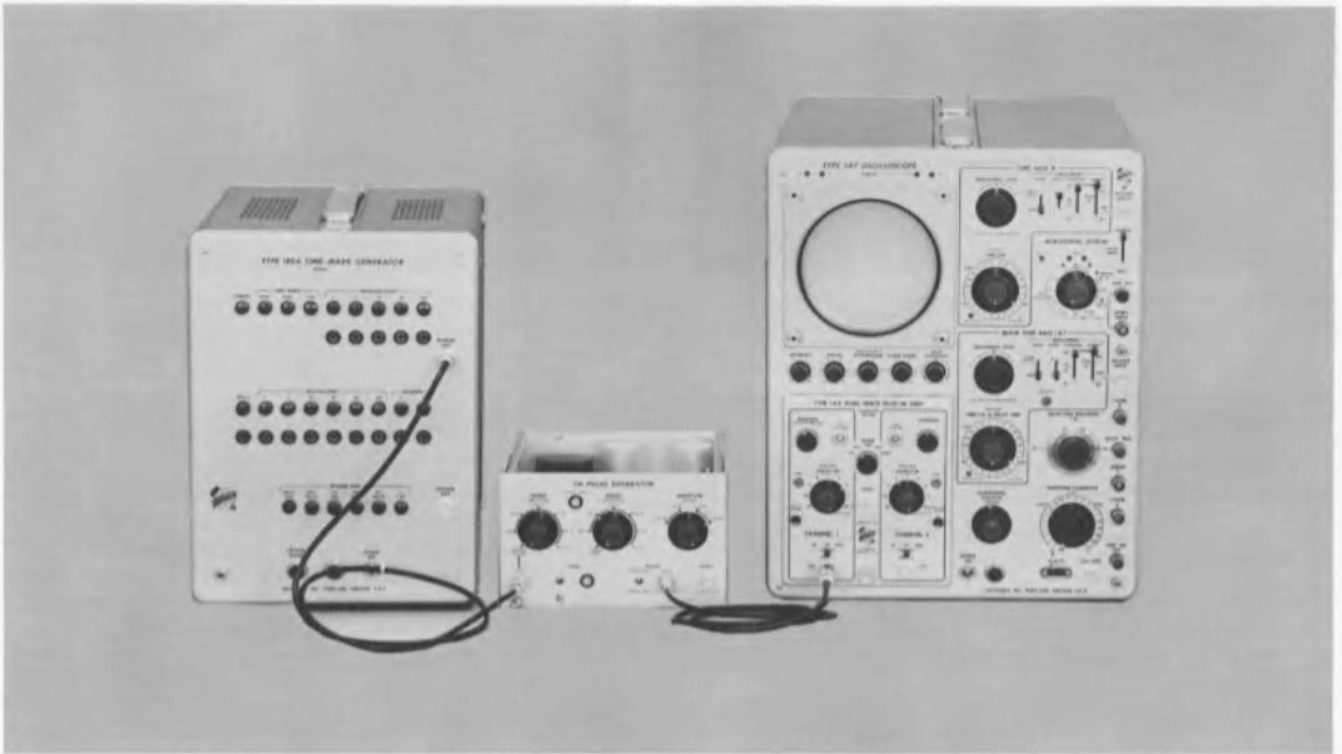

Fig. 4-17. Test setup for checking external triggering.
c. Connect a 50Ω coax from the Type 114 TRIGGER OUTPUT connector to the Type 1A1 Channel 1 input (see Fig. 4-17). Set the Type 1A1 MODE switch to CH 1. Set the Type 1A1 Channel 1 VOLTS/CM switch to 1.
d. Set the Type 547 TIME/CM (B) switch to $1 \mu\text{SEC}$ and adjust the TRIGGER LEVEL control for a stable display. Check for 1 pulse/cm of 3 volts amplitude ± 1 volt.